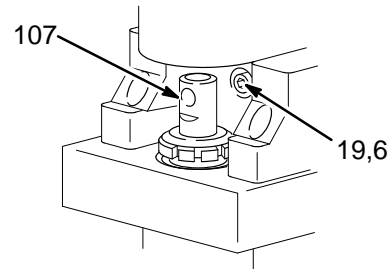
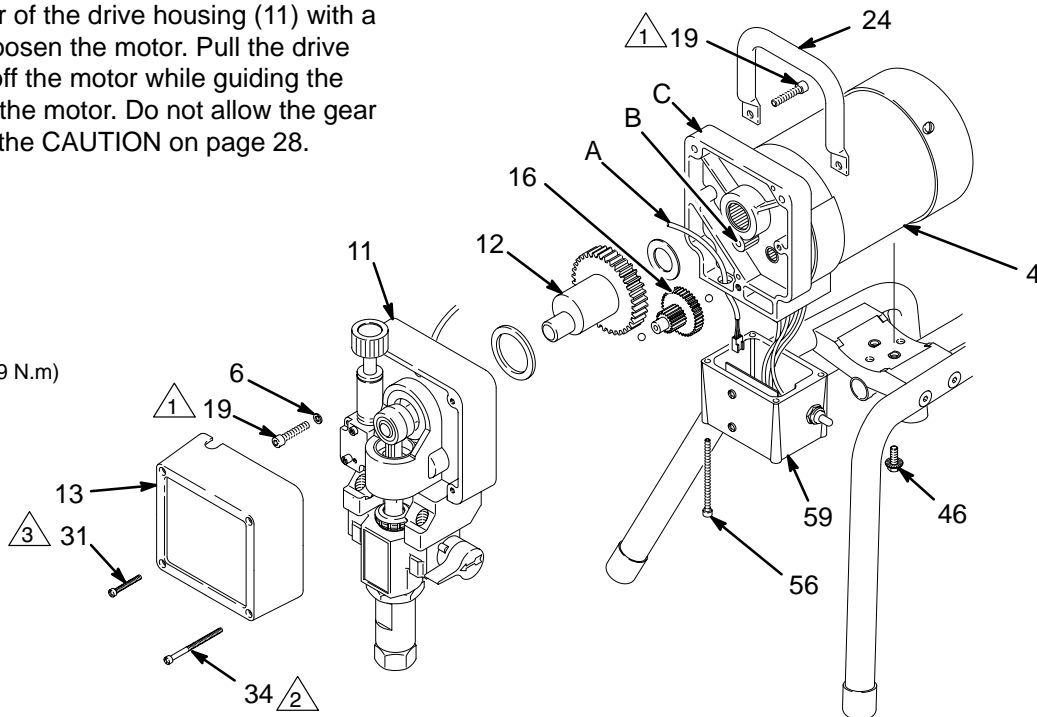

Fig. 25
Fig. 26
**NOTE:** See Fig. 26 except where noted.
4. Remove the front cover (13).
5. Turn the displacement pump rod (107) so the pin hole aligns with the bottom drive housing screw (19). See Fig. 25. Remove the three drive housing screws and lockwashers (19,6). Also see Fig. 26.
6. Remove the two motor screws (19) and remove the sprayer handle (24).
7. Tap the lower rear of the drive housing (11) with a plastic mallet to loosen the motor. Pull the drive housing straight off the motor while guiding the harness (A) from the motor. Do not allow the gear (16) to fall. Read the CAUTION on page 28.
8. Remove the two screws (46) and lift the motor off the base (66).
9. Align the new motor with the base and reinstall the screws (46).